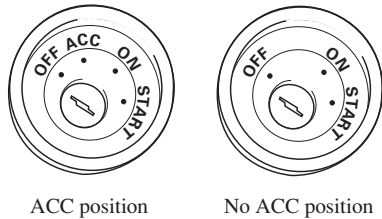

Fig. 1
- If this unit is installed in a vehicle that does not have an ACC (accessory) position on the ignition switch, the red lead of the unit should be connected to a terminal coupled with ignition switch ON/OFF operations. If this is not done, the vehicle battery may be drained when you are away from the vehicle for several hours. (Fig.1)